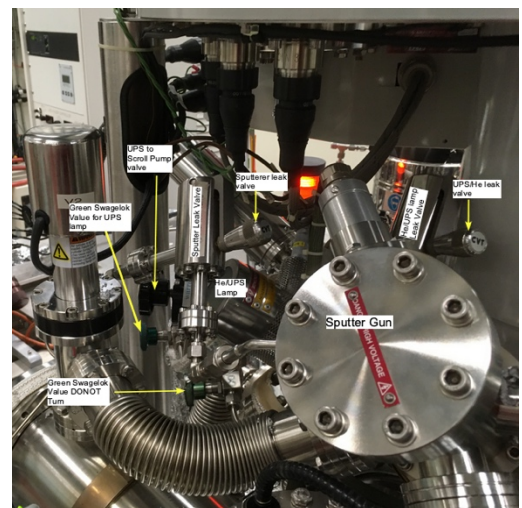

Figure 2 View of UPS/He lamp and Sputterer. Note two green swagelok valves, leak valves, and
- 5) Open the green Swagelok valve, Figure 2. Turn it 1 full counterclockwise rotation. Be sure to turn the valve that is connected to the leak valve for the UPS lamp. There is the other green valve to the right of the correct valve marked with red tape that should **NOT** be turned, Figure 2.
- 6) Slowly and carefully, open the leak valve on the UPS lamp, Figure 2. This allows He(g) to flow into the SAC via the UPS lamp. The leak valve needs to be turned approximately 1.5 rotations **ccw**. After 1 full turn, **SLOWLY** turn the knob while monitoring the pressure until the STC reads  $\sim 2 \times 10^{-8}$  Torr and the SAC reads  $\sim 1 \times 10^{-8}$  Torr.
- 7) Open the UPS-to-scroll differential pumping valve located to the left of the UPS lamp housing, Figure 2. Hold the valve base while opening to maintain the UPS alignment. Turn the valve fully counterclockwise until it stops. The chamber pressures should lower after the valve is opened.